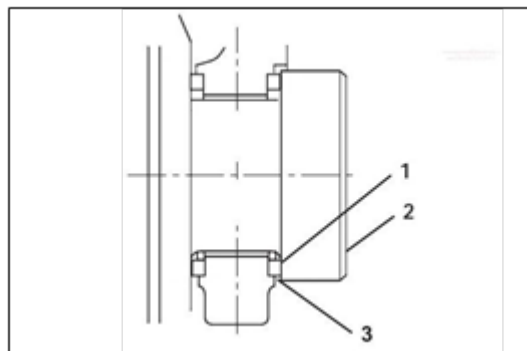

Figure 114.
METHOD B: Use a feeler gauge to measure the clearance (Figure 114, item 3) between the thrust bearing (Figure 114, item 1) and crankshaft (Figure 114, item 2). Record the measurement. See Thrust Bearing specifications for the service limit.